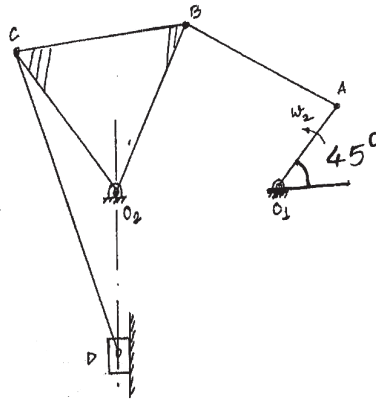

Fig. 2
6. In the mechanism shown in Fig. 2, the crank OA rotates uniformly at 5 rad/s. for the given configuration. Determine acceleration of slider D. Also determine angular acceleration of link AB and CD. Various link lengths are :